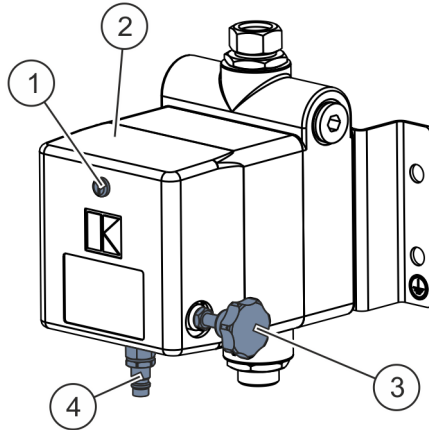

Fig. 8: Cover hood
4. ➤ Remove the compressed air connection (Fig. 8/4).
5. ➤ Unscrew the star handle (Fig. 8/3) from the pressure regulator.
6. ➤ Unscrew the screw (Fig. 8/1) and remove the cover hood (Fig. 8/2).